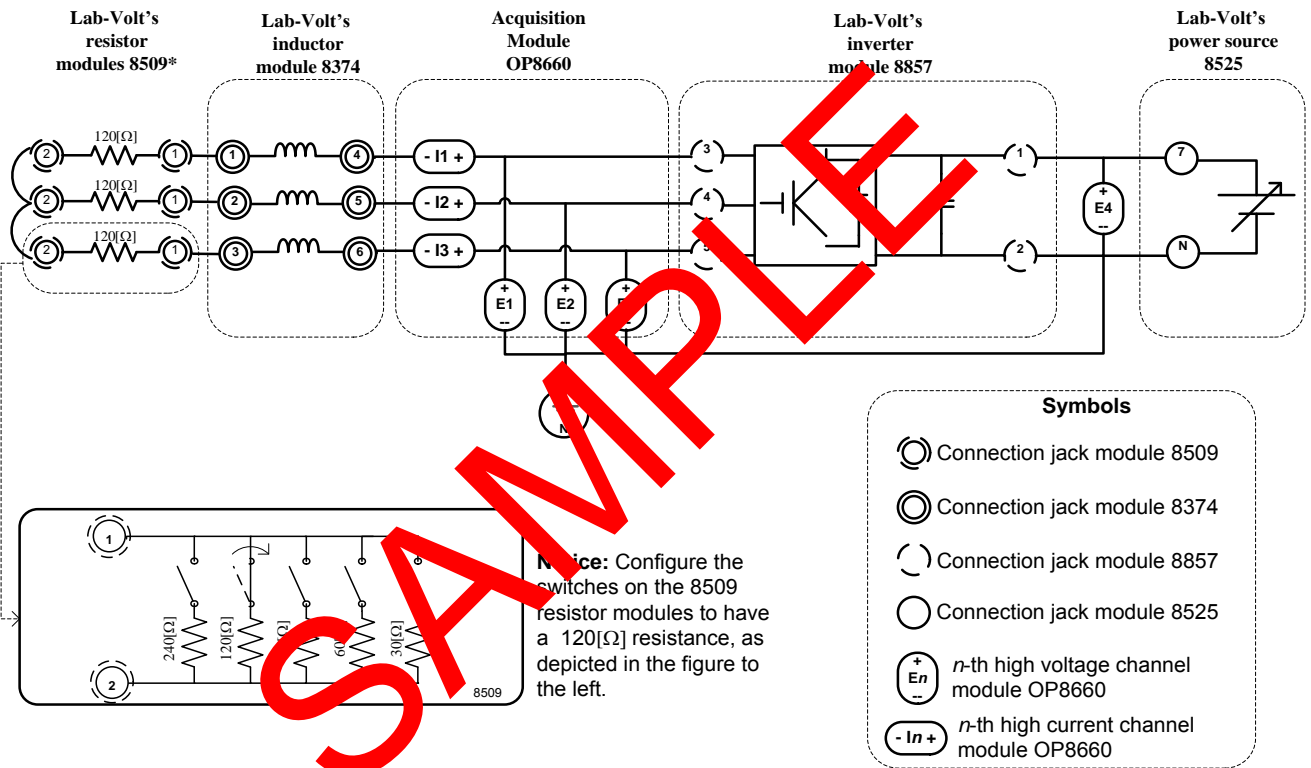

Figure 5.4 Connections between OP8660's voltage and current channels and LAB-VOLT's hardware
- 3.- Perform the control connections between OPAL-RT's OP8660 and LAB-VOLT's 8857 inverter as shown in section 3.4. Additionally, perform the power connections depicted in Figure 5.4 between OP8660's voltage and current channels and LAB-VOLT's hardware. Actual numbering and labeling of the jacks in the different hardware modules correspond to those depicted in Figure 5.4, except for the resistor module 8509 where no jack numbering is provided so the employed convention is graphically introduced.